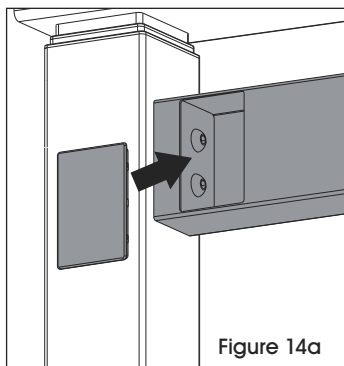

Figure 14a
14. Place stringer cover over holes on stringer. Tighten Allen head bolts on bottom of stringer to secure. (See Figures 14a-14b)